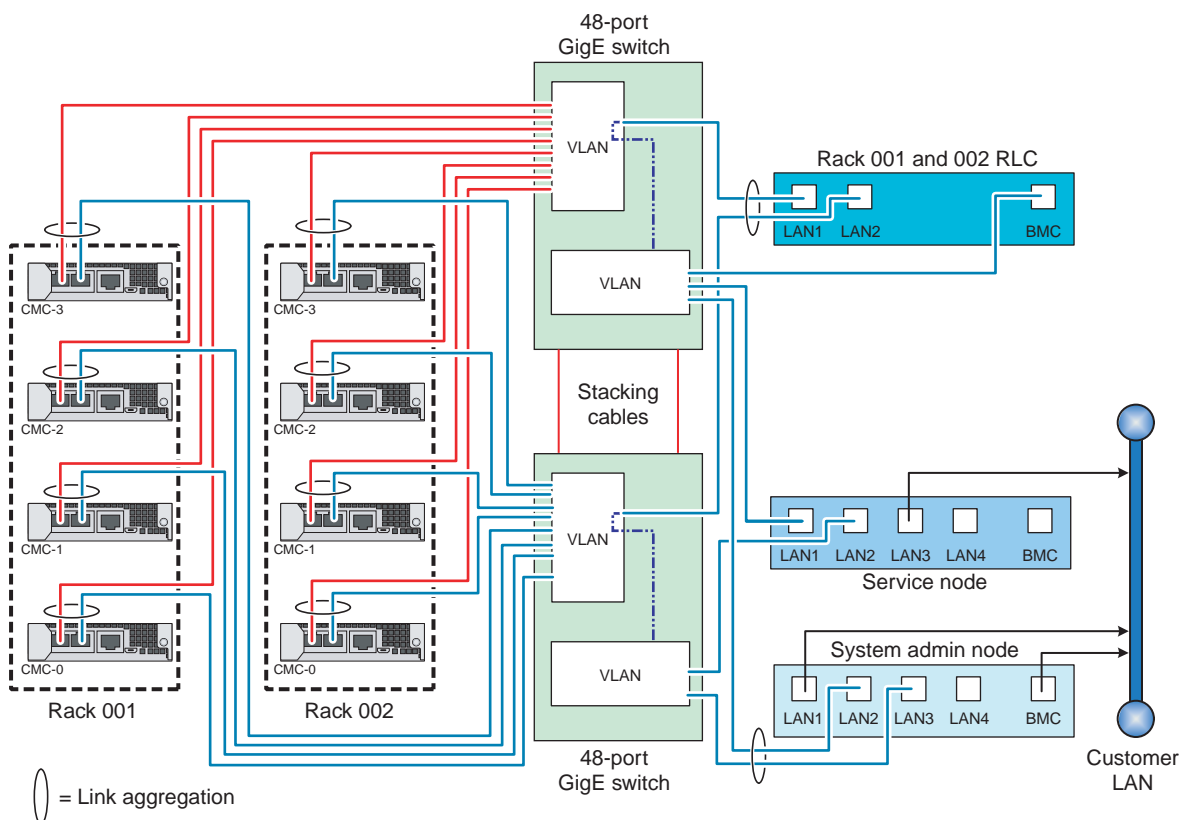
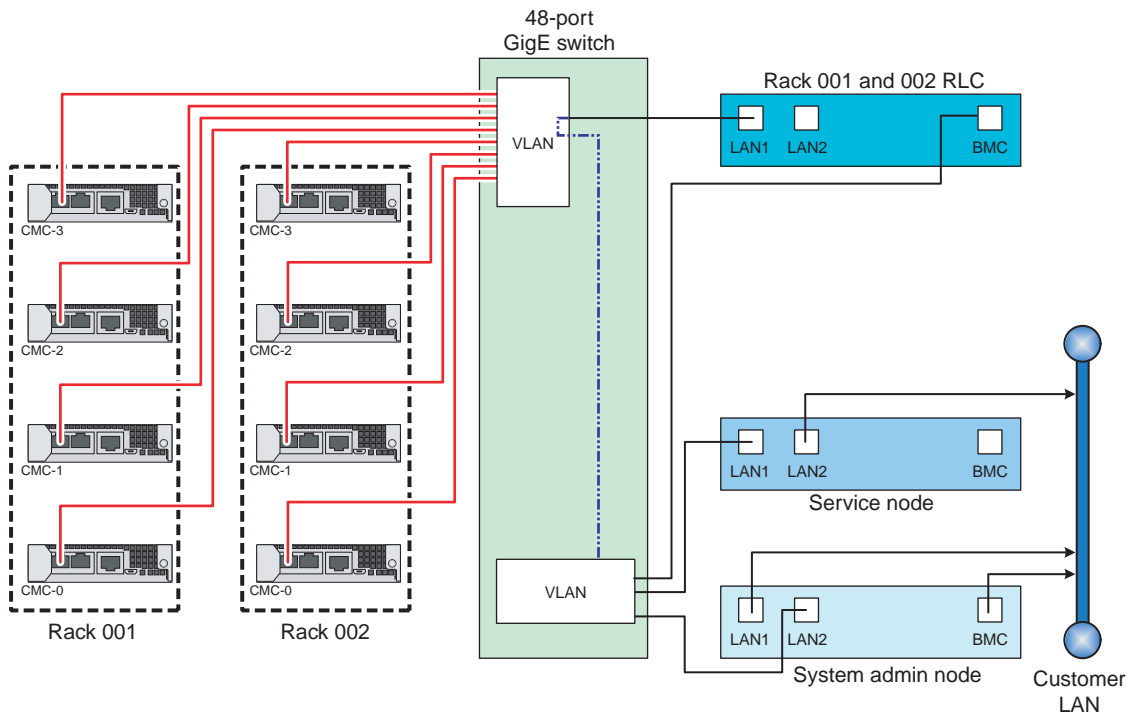

Figure 2-2 Redundant Chassis Manager Interconnect Diagram Example
Figure 2-3 Non-redundant Chassis Manager Interconnection Diagram Example
- All blade enclosures within a system are polled for and provide information to the administrative node and RLC through their chassis management controllers (CMCs). Note that the CMCs are enlarged for clarity in Figure 2-3.
The chassis managers in each blade enclosure connect to the system administration, rack leader and service node servers via Gigabit Ethernet switches. See the redundant switch example in Figure 2-2 and the non-redundant example in Figure 2-3 on page 17.
Note that the non-redundant example (shown in Figure 2-3) is a non-standard chassis management configuration with only a single virtual local area network (VLAN) connect line from each CMC to the internal LAN switch. See also “Multiple Chassis Manager Connections” in Chapter 3.